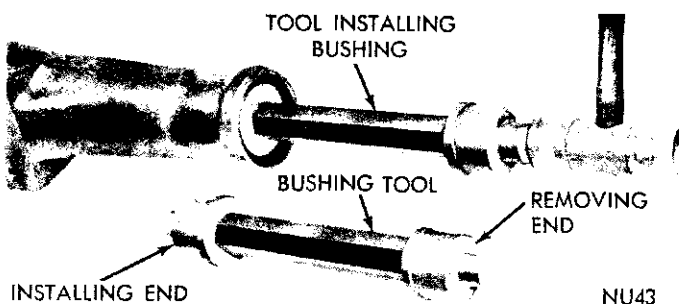

Fig. 12—Replacing Bushing in Extension Housing
(2) Drive the bushing out of housing (Fig. 12) with Tool C-3996.
(3) Slide a new bushing on installing end of Tool
C-3996. Align oil hole in bushing with oil slot in housing, then drive bushing into place (Fig. 12).